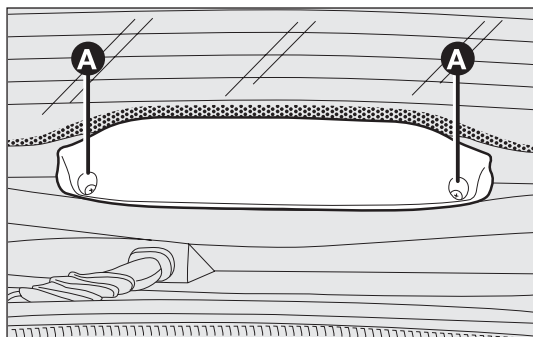

fig. 157
- ☐ undo the two screws A-fig. 157 and remove the whole cover;